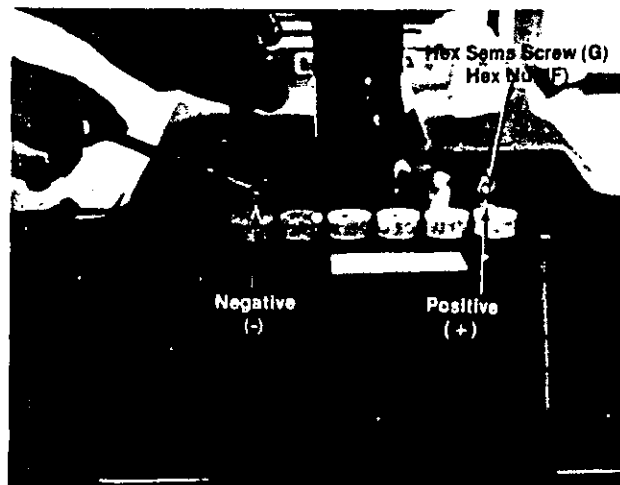

FIGURE 8.
- Attach the positive cable (right hand side of rider) to the positive battery terminal with hex sems screw (G) and hex nut (F). See figure 8.
- Attach the negative cable, grounded, to the negative battery terminal with hex sems screw (G) and hex nut (F). See figure 8.